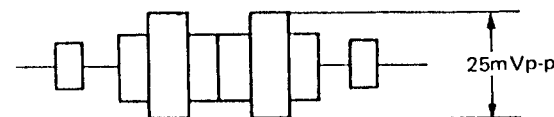

Figure 47.
- 3) First, place R310 (Luminance control in record mode) in the minimum position. Then, adjust the chroma record current to the level shown in figure 47 by using R311 (Chrominance control in record mode).